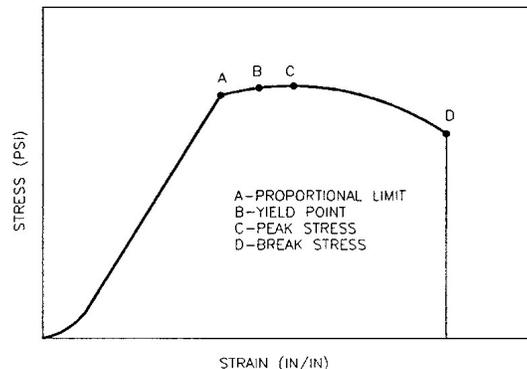

Figure AC.2: Stress/Strain Values
H. Stress is the Load or Force applied to a specimen divided by the original cross sectional area for uniaxial tests. Peak Stress or Ultimate Strength is the Peak Load divided by the original cross sectional area of the specimen. Peak Stress is illustrated by point C in Figure AC.2.
I. Break Stress is the stress at the break point illustrated as point D in Figure AC.2.
J. Strain is either the elongation divided by the gauge length or the effective length of the specimen as defined above. Peak Strain is the elongation at the break point divided by the gauge length or the effective length. Peak Strain is illustrated by point D on Figure AC.2.
K. Break Strain is the strain at the break point and is illustrated by point D in Figure AC.2.